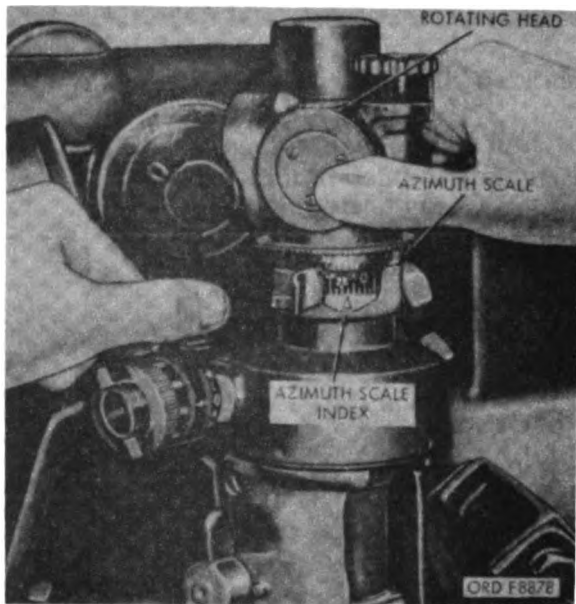

Figure 81. Slewing of the rotating head by use of azimuth worm throwout lever.
- (2) For rapid setting in large angles with the panoramic telescope M12A7C, push the azimuth worm throwout lever (fig. 11) against spring pressure as far as it will go. Hold the throwout lever in the disengaged position and turn the rotating head (fig. 81) until the proper 100-mil graduation on the azimuth scale appears opposite the azimuth scale index. Release the throwout lever.